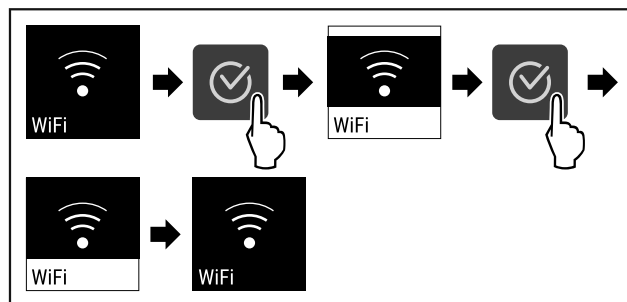

Fig. 76
- Complete the steps (see Fig. 76).